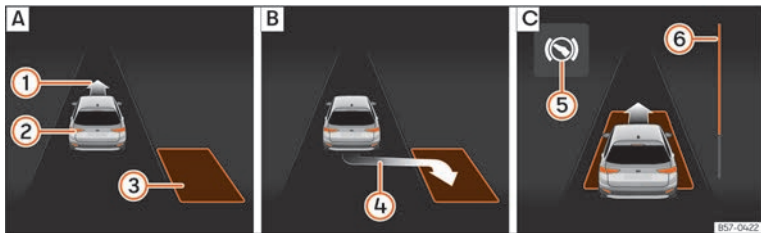
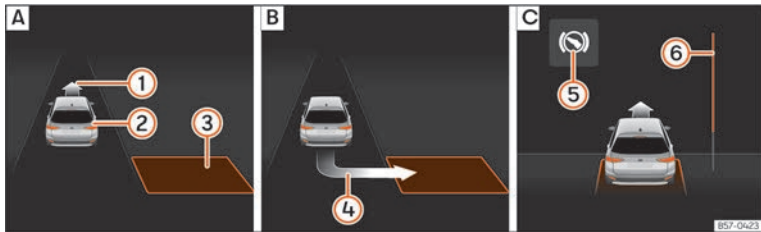

Fig. 125 On the instrument cluster display: parallel parking. **A**: Finding a parking space **B**: Parking position. **C**: Manoeuvring.
Fig. 126 On the instrument cluster display: angle parking. **A**: Finding a parking space **B**: Parking position. **C**: Manoeuvring.
- Look at the instrument cluster screen to see if the space has been detected as “appropriate” and if the correct position for parking has been reached >>> Fig. 125 **B** or >>> Fig. 126 **B**. The space is considered “appropriate” if the instrument cluster display shows the parking indication ④.
- Reverse until the continuous ParkPilot signal sounds; **OR:** reverse until the indication to move forward appears on the instrument panel display »» Fig. 125 [C] or »» Fig. 126 [C]; **OR:** reverse until the **Park Assist finished** message appears on the instrument cluster display. The progress bar (6) indicates the distance to cover.
- Press the brake pedal until the parking assist system completes the steering wheel turns; **OR:** until the symbol (S) goes out on the instrument panel screen.
- Move forward until the continuous ParkPilot signal sounds; **OR:** move forward until the reverse indication appears on the instrument panel display. The Park Assist system steers the vehicle forward and back until it centres it in the space »» Fig. 125 [C] or »» Fig. 126 [C].
The progress bar »» Fig. 125 (6) and »» Fig. 126 (6) on the instrument cluster display shows the relative distance to be covered as a symbol. The greater the distance, the fuller the progress